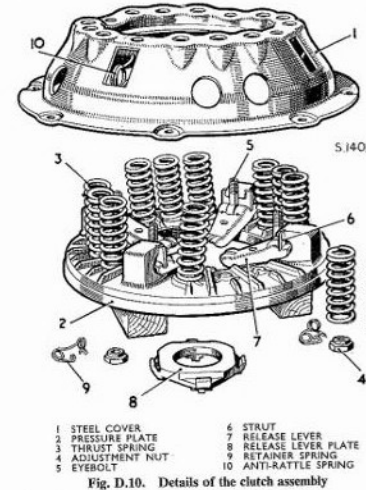

Fig. D.10. Details of the clutch assembly
8. The cover can now be lifted off the pressure plate disclosing the internal parts (see Fig. D.10).
3. Position the cover on top of the assembled parts, ensuring that the anti-rattle springs (10) Fig. D.10 are in position between the release levers and cover, and that the top of the thrust springs are directly under their seats in the cover. Make sure also, that each pressure plate lug is aligned with its respective aperture in the cover.